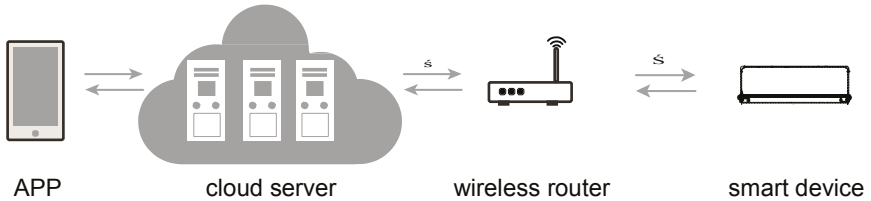

Figure 8.2
When the Wi-Fi indication light blinking once every 10 second, the communication connect ① or ② in Figure 8.2 is failure.